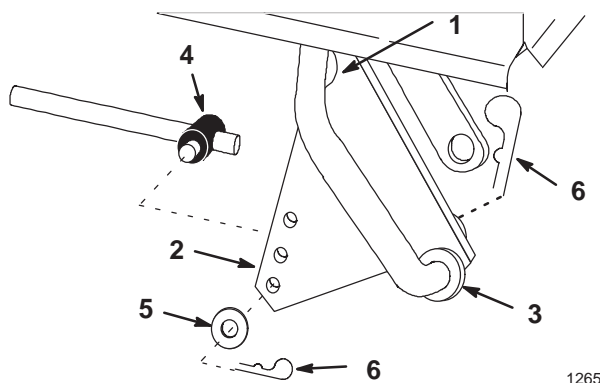

**Figure 11**
7. Slide front lift arm of blade into tractor front hitch. Close and lock front hitch (Fig. 11).